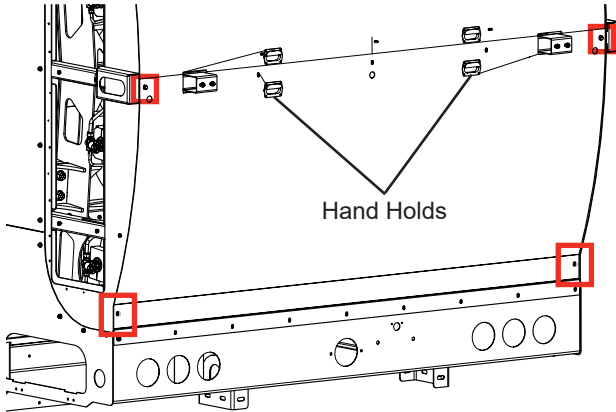

Figure 5-4
5. You need a second person for the next steps. One person needs to hold the bottom cover sheet by its hand holds while the second person removes and retains the remaining (4) fasteners on the bottom cover sheet (Figure 5-4).